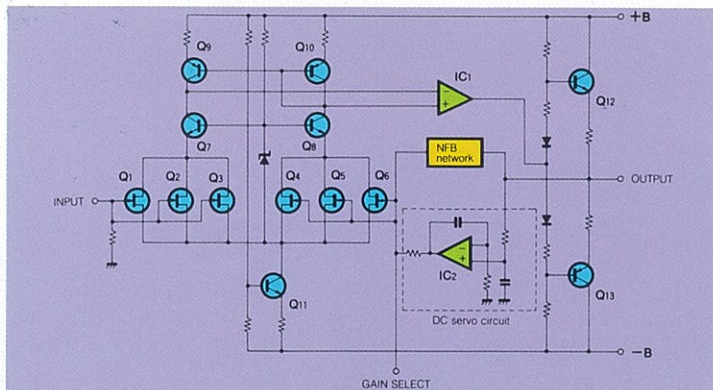

Fig. 2 Equalizer amplifier of E-305
As shown in Fig. 2, the gain of the phono stage is switchable to match either moving-coil (MC) or moving-magnet (MM) cartridges. In the MC position, gain is 60 dB, and in the MM position 30 dB. The input employs low-noise, high-Gm FET devices in a 3-parallel differential circuit with cascode bootstrap. The circuit is direct-coupled for superior signal-to-noise ratio and stability. The triple parallel design is perfectly suited to the low output levels of moving-coil cartridges, as it keeps residual noise to a minimum.